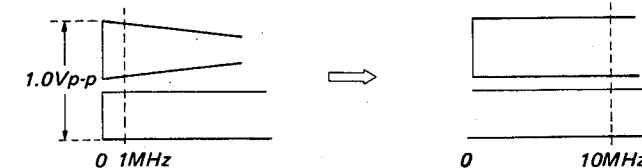

Fig. 20-1
5. Adjust CV2 of BB board so that the output waveform becomes flat in range of 0 to 10MHz as shown in Fig. 20-1.